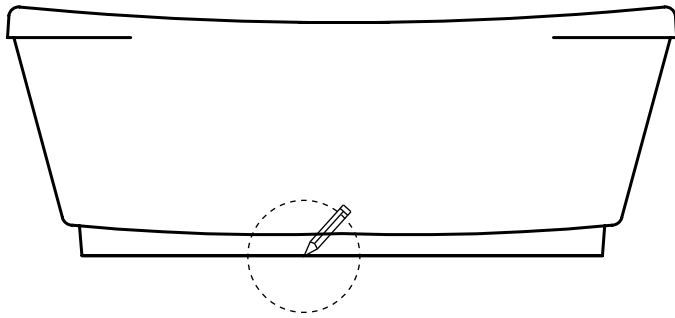

Figure 1
2. Place the unit in the exact installed position on the floor and trace the outline of the bath with a pencil or any erasable marking (figure 1).